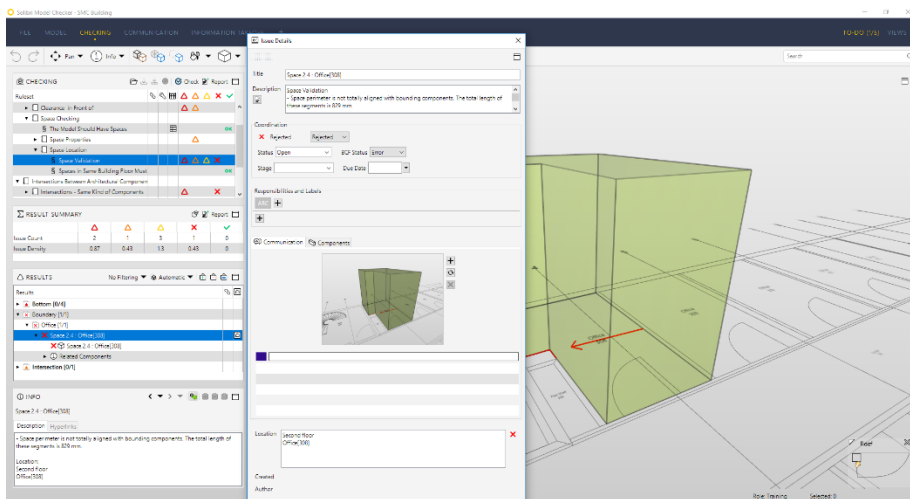

Figure 63: Issue details
- (5) Right click the issue and choose “Add Slide...” from the pop-up menu. In the **Issue Details** window add a comment to the description field “*Space boundary is not aligned with bounding walls*”. Also, click the **Coordination** tab to assign the Issue to a specialist such as “Arc”, click Ok (see Figure 63).